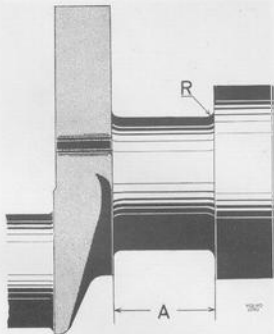

Fig. 2-45. Bearing journal
The fillets at the ends of the journal should have a radius of 2.0—2.5 mm (0.080—0.100") on all journals, see Fig. 2-45. The width measurement (A) for the pilot bearing depends on the size of the journal and should be ground in order to obtain the correct measurement.